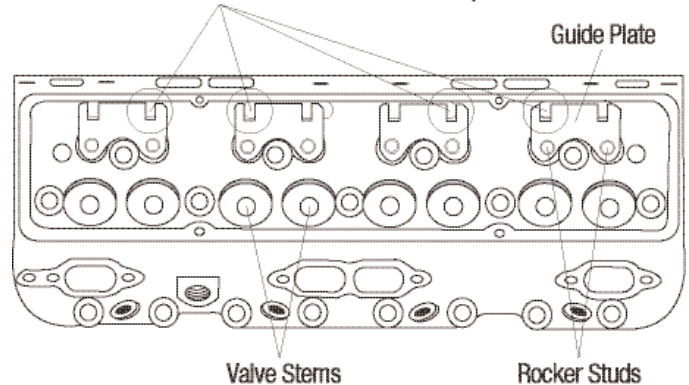

Figure 3 - Pushrod Guide Plate Clearance
Complete Edelbrock cylinder heads are sold with the pushrod guideplates and rocker studs installed, but they will require checking for proper valve train alignment and pushrod clearance before operating engine. The pushrod guideplates are attached to the cylinder heads with two (each) rocker studs. The stud holes have enough clearance to adjust the guideplates for optimum alignment of your valve train components (See Figure 3).
2. Check pushrod-to-cylinder head clearance. **NOTE: YOU MUST CHECK TO ENSURE THAT THERE IS CLEARANCE BETWEEN THE PUSHRODS AND THE CYLINDER HEADS (.005" min.) (See Note "A", Figure 3).**